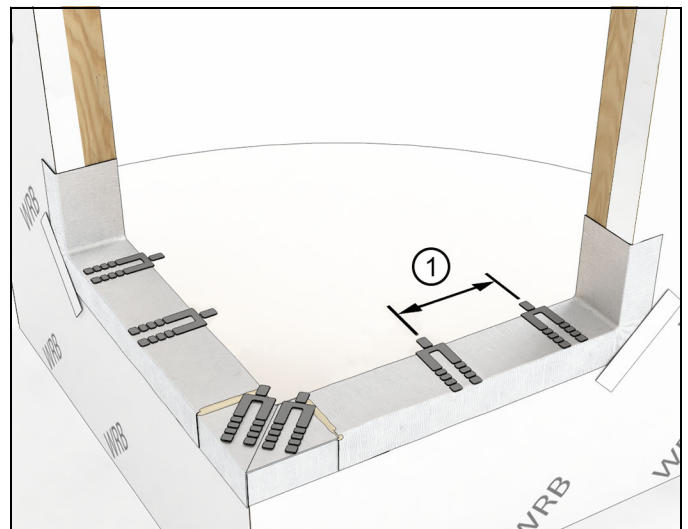

Figure 32
1. Place shims on the sill near the corners, near the miter, at the center, and every 15" on center as needed. See Figure 32.